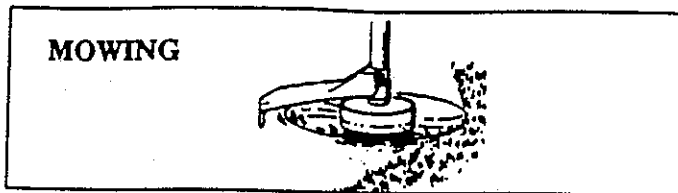

Figure 14
3. **MOWING** - Figure 14. Your trimmer is ideal for mowing in places conventional lawn mowers cannot reach. In the mowing position, keep the line parallel to the ground. Avoid pressing the head into the ground as this can scalp the ground and damage the tool.